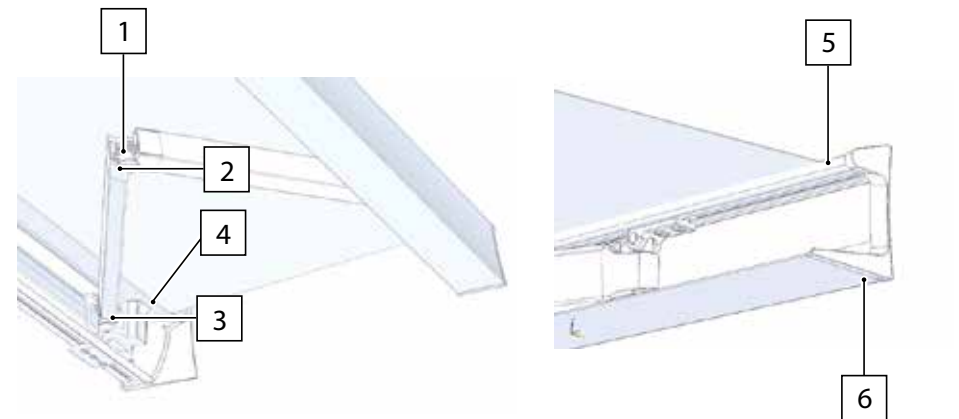

Fig.2
Annually, before summer use	<p>Open the awning about halfway and lubricate moving parts with silicone oil:</p> <ul style="list-style-type: none"> • Lubricate the chain (ref. 1 fig. 2), the hinge (ref. 2 fig. 2) and the shoulder of the arms (ref. 3 fig. 2) • Lubricate the cap on the opposite side to the drive (ref. 4 fig. 2) <p>Clean the drainage groove (ref. 5 fig. 2) and the two caps (ref. 6 fig. 2) of rain and wind residue.</p>